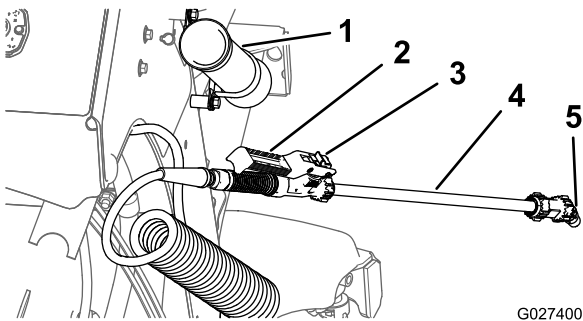

Figure 53
1. Remove the wand from the holder at the right side of the machine (Figure 53).
4. Squeeze the trigger to the spray wand handle to begin spraying; lock the trigger in place if desired (Figure 53).
- A. Rotate the spray wand lock to the Off position (if applicable) and release the trigger (Figure 53).
- C. Put the wand back into the wand holder (Figure 53).